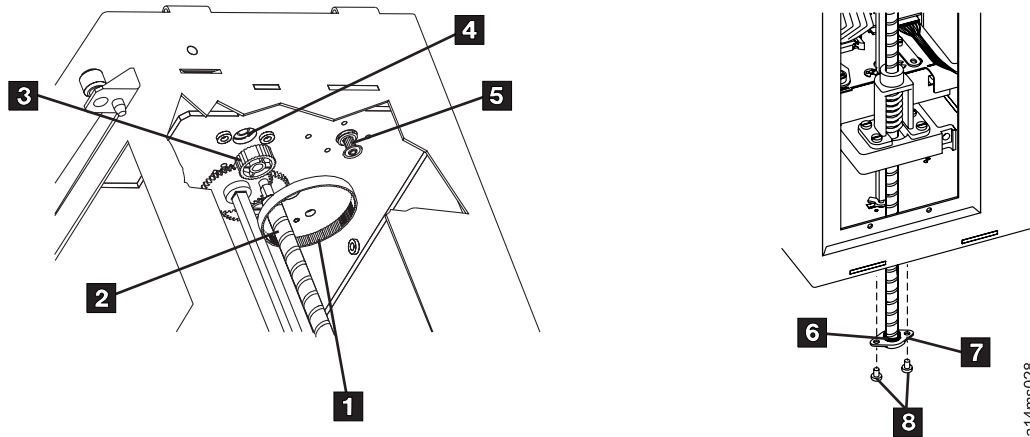

Figure 10-39. Leadscrew Drive Belt Replacement
1. See Figure 10-39 on page 10-55. Install the belt **1** over the leadscrew **2**.